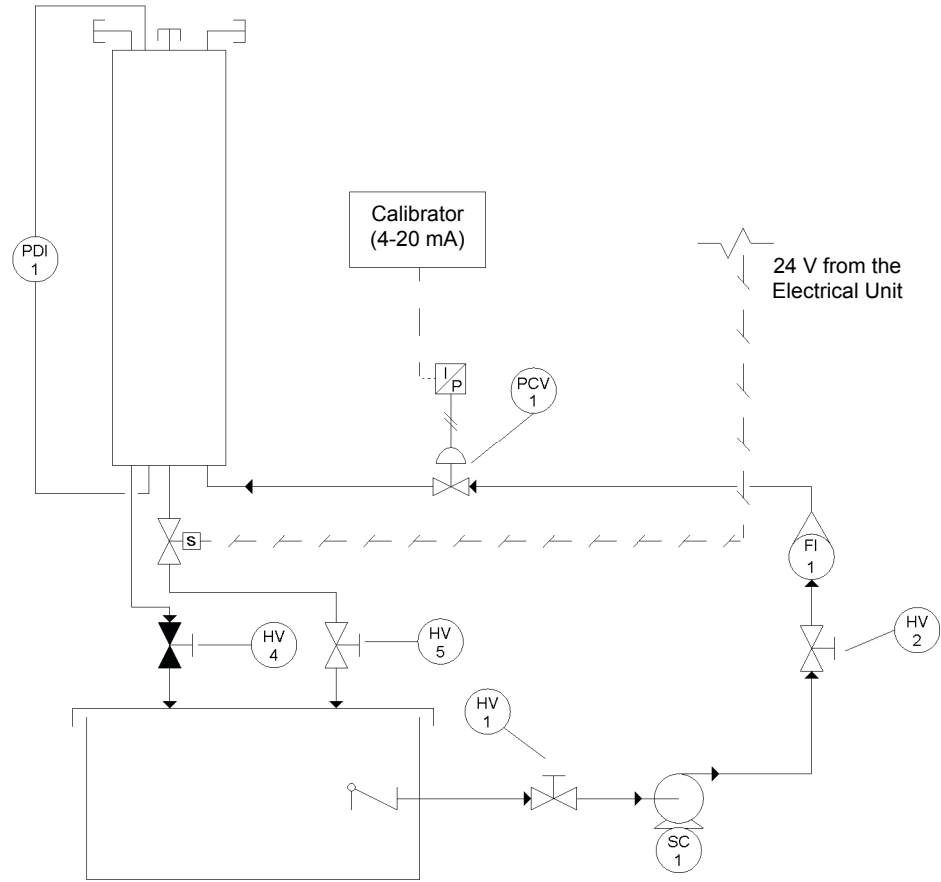

Figure 3-23. P&ID.
39. If the pressure gauge used previously is still connected, remove its impulse line and connect the low-pressure port of the differential-pressure transmitter to the top of the column. Figure 3-23 shows the piping and instrumentation diagram for this setup.